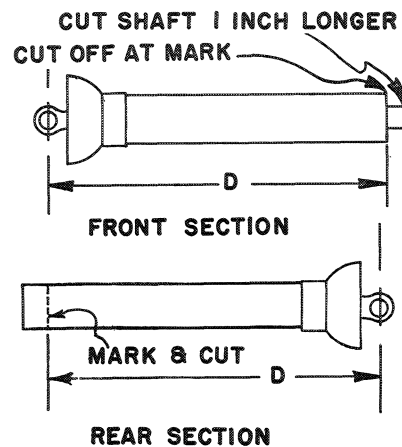

FIGURE 24
6. Cut the front PTO tube off at the mark. The rectangular shaft should be cut one inch longer as shown in Figure 24.
7. Measure the distance D, Figure 24 of the front PTO section and measure the same distance on the rear section. Cut off the tube and shaft at this point. Remove all burrs and reassemble the PTO shaft.
The distance "D" Figure 24 for the Model 47 Mower using the AC WD or WD-45 hitch bundle is 18 inches.
The length of the PTO shaft, front and rear section for all Model 45 Mowers is 19" from the center of the cross bar to the end of the shield. (Dimension D in Figure 24). Be sure to cut the rectangular shaft to protrude one inch on the front section.